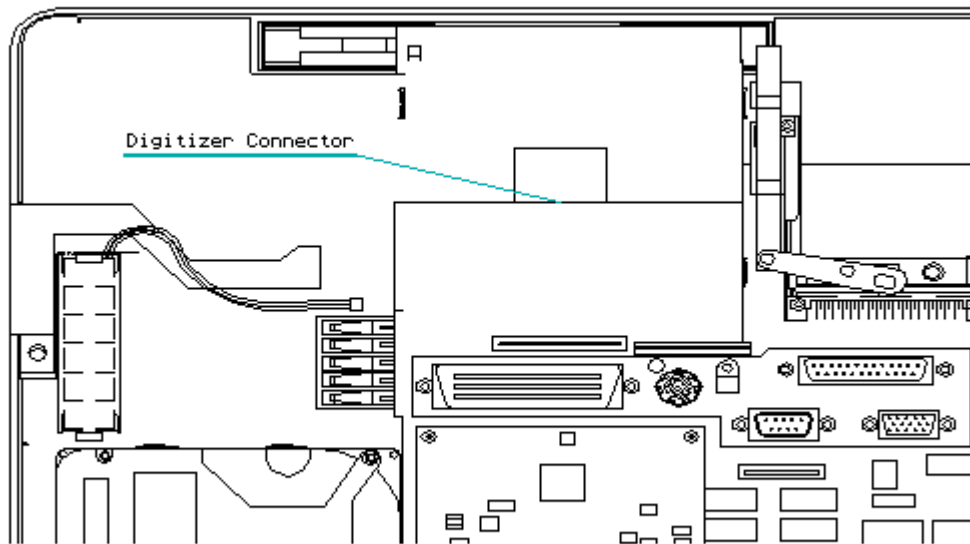

Figure 3-67. Disconnecting the Digitizer from the System Board
- 6. Disconnect the digitizer cable from its ZIF connector on the system board (Figure 3-67).